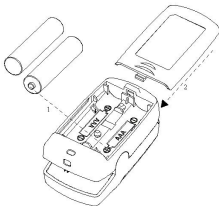

Figure 3 Battery Installation
1. Refer to Figure 3, insert two AAA size batteries into the battery compartment properly, and note the polarity markings.